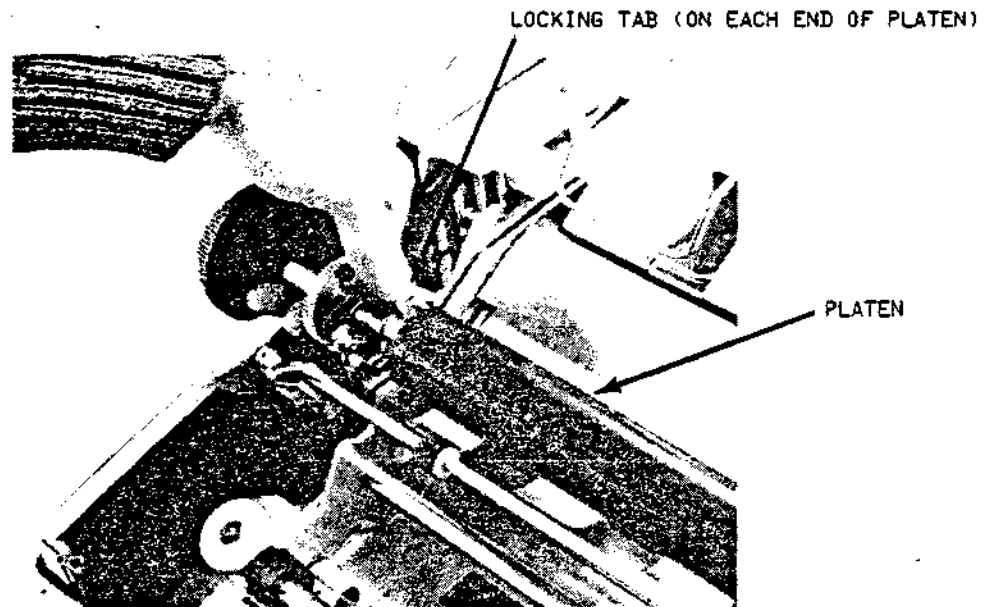

Figure 3-6 Friction Platen Removal
- c. Press the locking tabs and lift the platen upward, out of the printer (Figure 3-6).